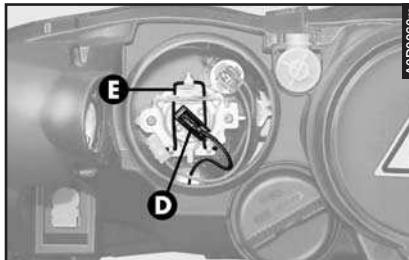

fig. 30
- Disconnect the snap-fitted connector (**D**- **fig. 30**) and release clip (**E**).